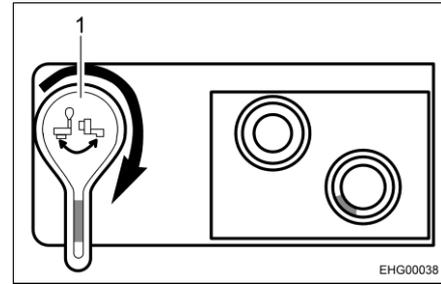

Fig. 51 Drain cock, open
- Open the drain cock. In order to do this, turn the lever of the drain cock through 90° in a clockwise direction (see Fig. 51,1).